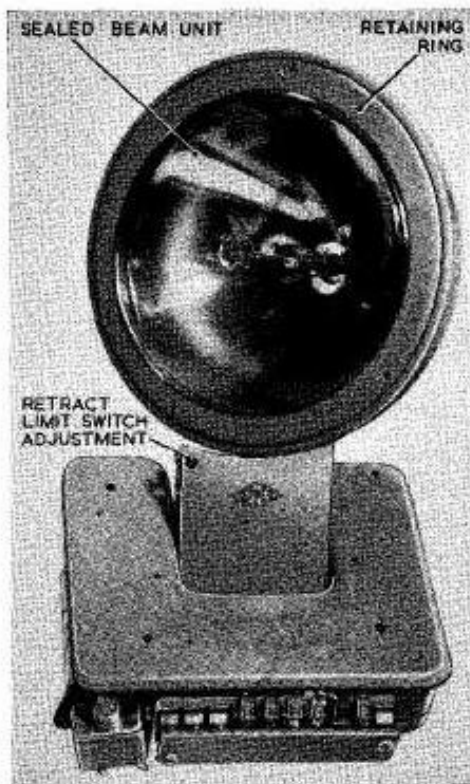

Fig. 1. General view of lamp
1. The Grimes Type G6250-1 landing and search lamp shown in fig. 1 is a retractable landing lamp, the filament housing of which may be continuously rotated, or turned to any selected position on a horizontal plane to air search operations. The housing is extended and rotated by two permanent magnet motors and may be extended at forward airspeeds up to 250 m.p.h. The light source of the lamp is a 28V, 450W sealed beam unit.
the retract limit adjusting screw shown in fig. 1 should be moved to correct the position. Turn the adjusting screw clockwise to decrease the travel of the housing and anti-clockwise to increase travel of the housing. Care must be taken in adjusting the increase of travel to prevent the housing